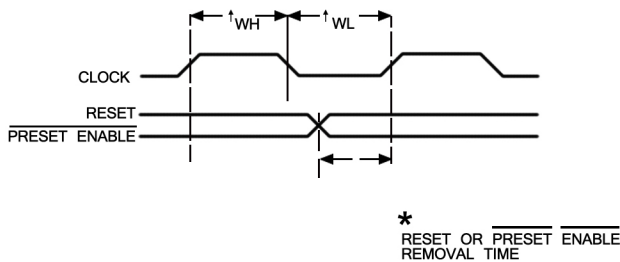

Fig.10 -Timing diagram defining trem.
*The time required for RESET or PRESET ENABLE control to be removed before clocking (see timing diagram, Fig. 10).